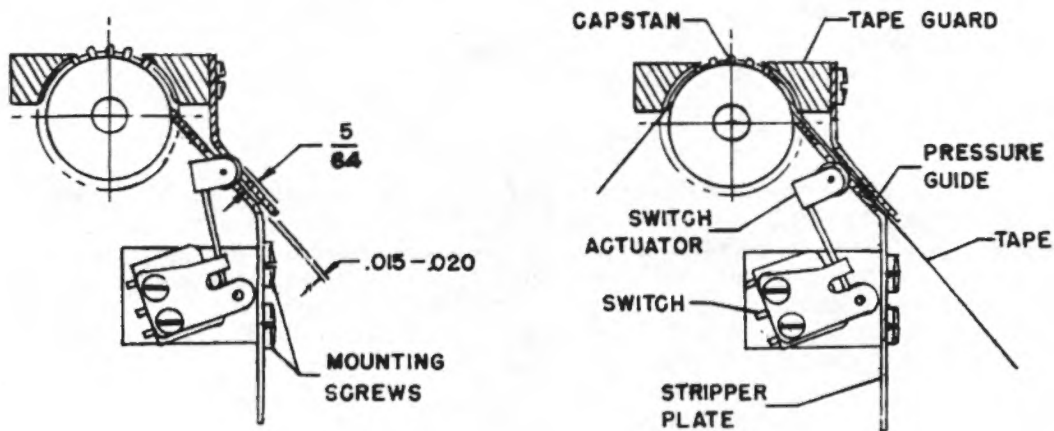

Figure 20. End-of-Tape Switch Adjustment:
7.1.2 Mechanical Operation (See Figure 20)
adjustment can be made by loosening the two mounting screws (Figure 20) on the outside face of the stripper plate and moving the block assembly up or down. The tape pressure guide should be adjusted so that there is .015" - .020" clearance between the stripper plate and guide.